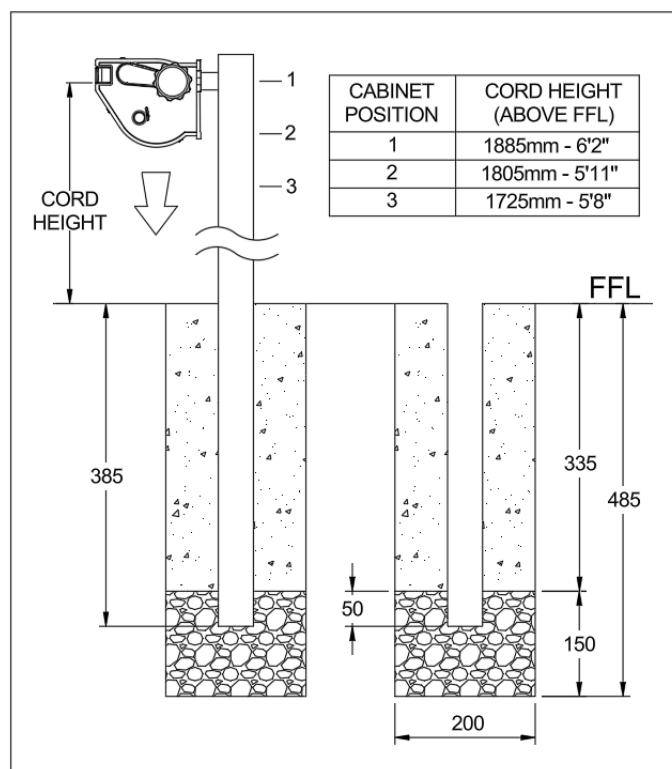

Fig. 2 In-Ground Install (Directly into soil).
1. Dig a hole 200 x 200 x 485mm deep. (Fig 2).
2. Add 100mm drainage aggregate and set the POST in the hole. (Fig 2).
3. Add an additional 50mm drainage aggregate up the sides of the posts and fill the remainder of the hole with concrete. (Fig 2).